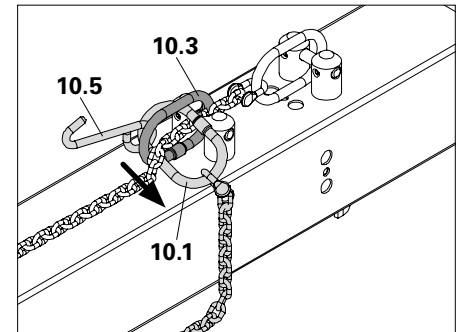

Fig. A3.02b
4. Insert Ring 1 (10.1) with hook (10.5) through Ring 3 (10.3) and pull through. (Fig. A3.02b)